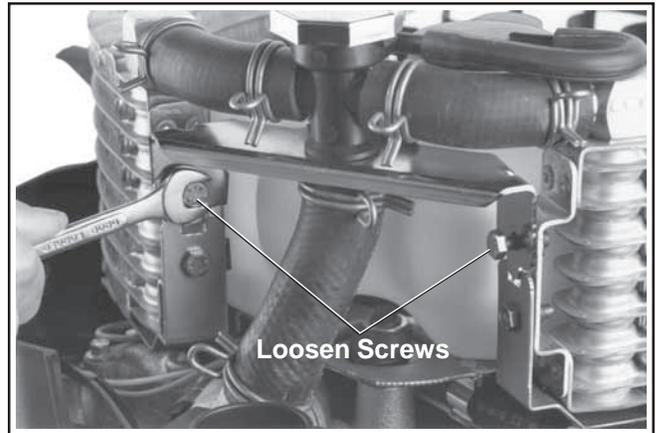

Figure 13. Loosening Screws.
5. The coolant overflow reservoir has 3 molded protrusions (1 upper, 2 lower, see Figure 14) that fit into corresponding holes in the support brackets. Loosen the two screws that fasten the upper bracket to the radiator. See Figure 13.